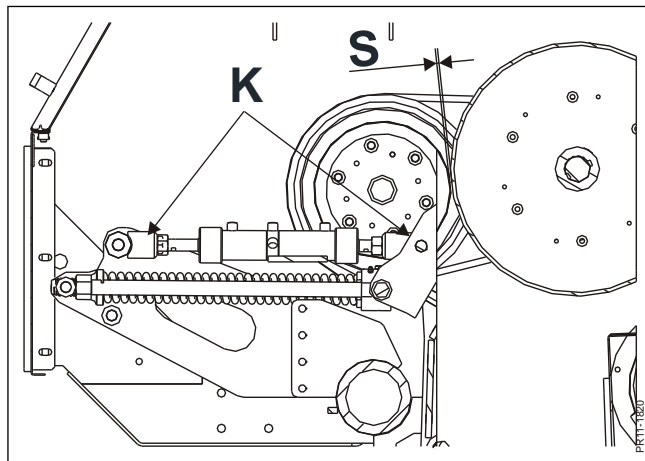

Fig. 4-37
**Fig. 4-37** In neutral position, with a new rubber disc, the distance between the rubber disc and the steel friction disc should be approx. **S** = 2-3 mm. Adjustment of the neutral position is done at the ends **K** of the cylinder. It is not necessary to adjust for wear on the rubber disk.